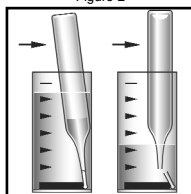

Figure 3
4. Place the Vacu-vial ampoule in the sample cup. Snap the tip by pressing the ampoule against the side of the cup. The ampoule will fill leaving a small bubble to facilitate mixing (fig 3).